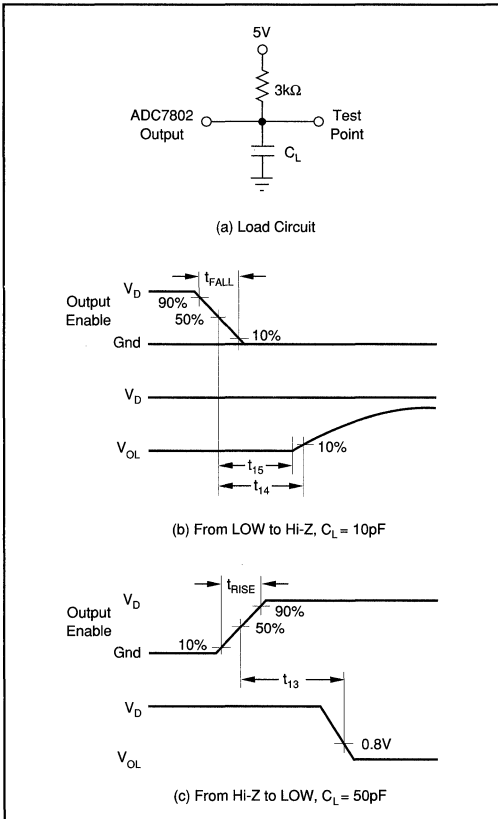

FIGURE 7. Measuring Active LOW to/from Hi-Z State.
NOTES: (1) All input control signals are specified with $t_{\text{rise}} = t_{\text{fall}} = 20\text{ns}$ (10% to 90% of 5V) and timed from a voltage level of 1.6V. Data is timed from V_{IH} , V_{IL} , V_{OH} or V_{OL} . (2) The internal $\overline{\text{RD}}$ pulse is performed by a NOR wiring of $\overline{\text{CS}}$ and $\overline{\text{RD}}$. The internal $\overline{\text{WR}}$ pulse is performed by a NOR wiring of $\overline{\text{CS}}$ and $\overline{\text{WR}}$. (3) Figures 7 and 8 show the measurement circuits and pulse diagrams for testing transitions to and from Hi-Z states.